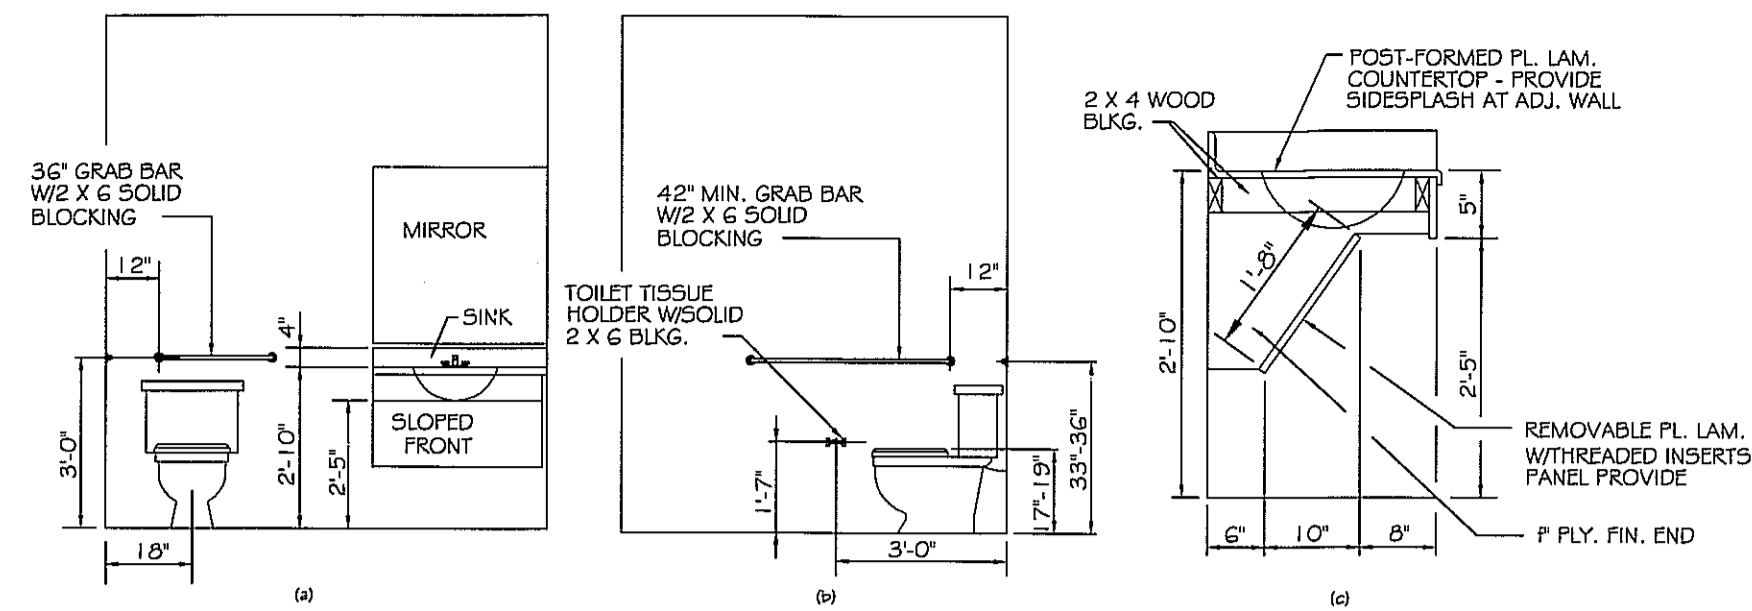

FIG. 31 LAVATORY & WATER CLOSET CLEARANCES
- 4.16.3 HEIGHT. THE HEIGHT OF WATER CLOSETS SHALL BE 17' TO 19' (480mm TO 485mm), MEASURED TO THE TOP OF THE TOILET SEAT. SEATS SHALL NOT BE SPRING TO RETURN TO A LIFTED POSITION (SEE FIG. 31).
- 4.16.4 GRAB BARS. GRAB BARS FOR WATER CLOSETS NOT LOCATED IN STALLS SHALL COMPLY WITH 4.26 AND FIG. 31. THE GRAB BAR BEHIND THE WATER CLOSET SHALL BE 36" (915mm) MINIMUM.
- 4.16.6 DISPENSERS. TOILET PAPER DISPENSERS SHALL BE INSTALLED WITHIN REACH, AS SHOWN IN FIG. 31. CONTROLS THAT CONTROL, DELIVER, OR THAT DO NOT PERMIT CONTINUOUS PAPER FLOW, SHALL NOT BE USED.
- 4.17.6 GRAB BARS. GRAB BARS MAY BE MOUNTED WITH ANY DESIRED METHOD AS LONG AS THEY HAVE A GRIPPING SURFACE AT THE LOCATIONS SHOWN IN FIG. 31 AND DO NOT OBSTRUCT THE REQUIRED CLEAR FLOOR SPACE. GRAB BARS SHALL COMPLY WITH 4.26.
- 4.19.2 HEIGHT & CLEARANCES. LAVATORIES SHALL BE MOUNTED WITH THE RIM OR COUNTER SURFACE NO HIGHER THAN 34" (865mm) ABOVE THE FINISH FLOOR. PROVIDE A CLEARANCE OF AT LEAST 29" (735mm) ABOVE THE FINISH FLOOR TO THE BOTTOM OF THE APRON (SEE FIG. 31).
- 4.19.6 MIRRORS. MIRRORS SHALL BE MOUNTED WITH THE BOTTOM EDGE OF THE REFLECTING SURFACE NO HIGHER THAN 40" (1015mm) ABOVE THE FINISH FLOOR (SEE FIG. 31).
- 4.24.2 HEIGHT. SINKS SHALL BE MOUNTED WITH THE COUNTER OR RIM NO HIGHER THAN 34" (865mm) FROM THE FINISHED FLOOR (SEE FIG. 31).